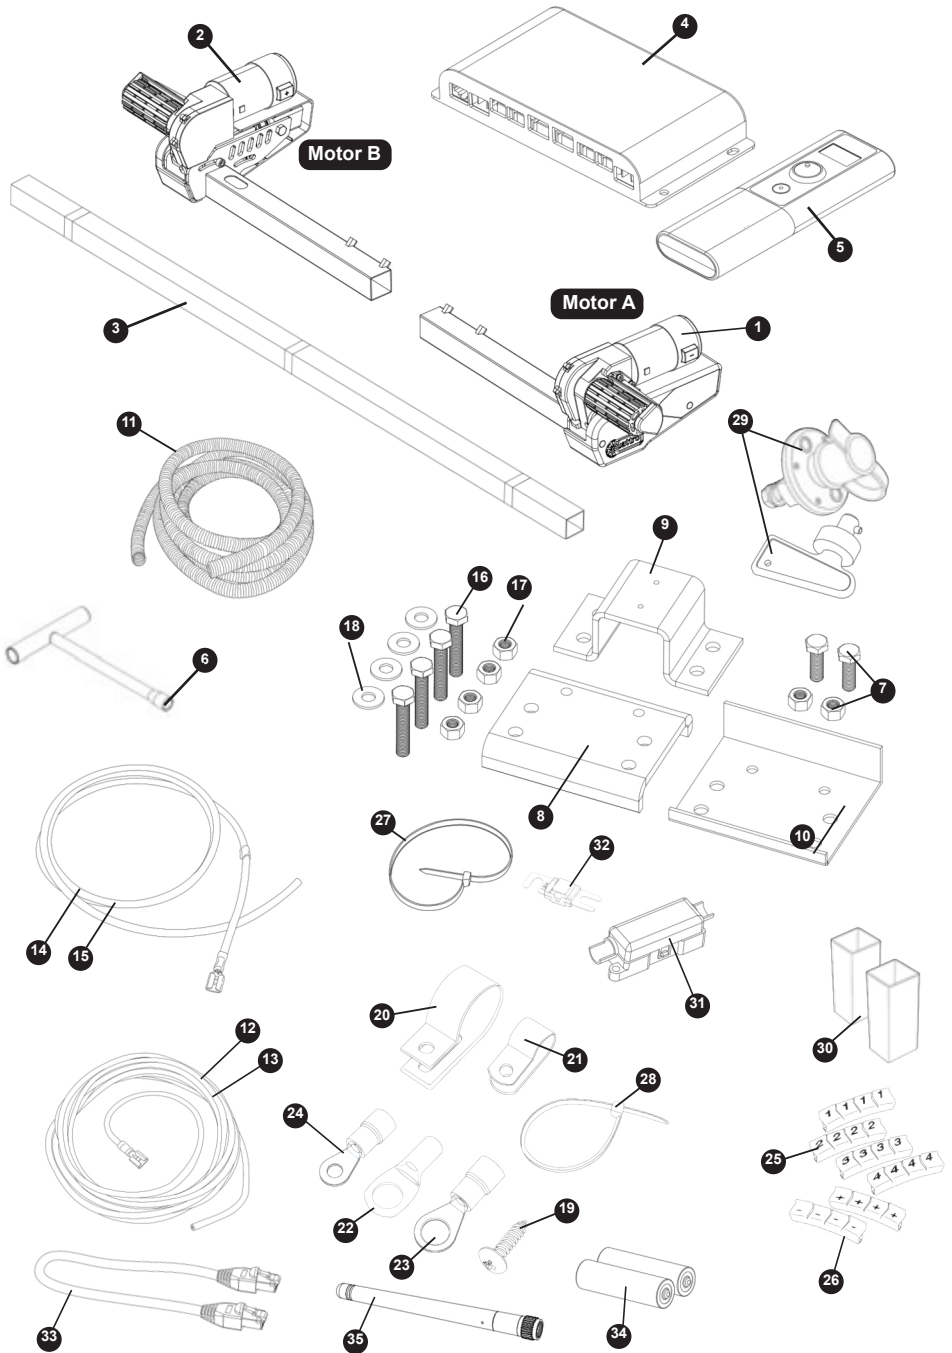
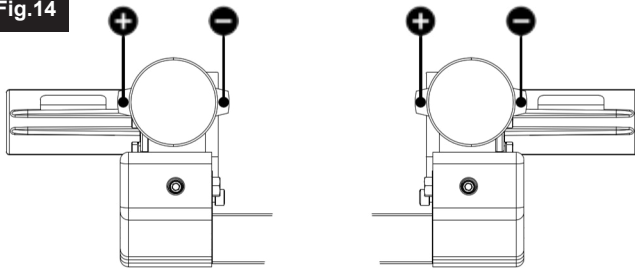

Fig.1
Fig.15
Loosely assemble motor framework side (1), motor framework side (2) and main cross bar (3) (see Fig.1). The nuts (Fig.1.A) for cross bar fixing must be no more than finger-tight at this stage.
Place the assembly (Fig.1) loosely under the caravan. In principle, the unit should be fitted in front of the caravan road wheels, but if fitting in this position is not possible, it is permissible to fit it to the rear of the wheels by rotating the whole assembly by 180° degrees (note: in this scenario, later refer to Fig. 15 for rear axle wiring schematic). Ensure that the Main Cross Bar (3) is positioned in the centre of the caravan/mover assembly (the centre is marked). Adjust the assembly so that the mover rollers are in line with the tyres, this can be adjusted slightly again later.
Start by wiring up your second mover system by following the same procedures stated in the previous section 'Installation - Electrical/Electronic Components'. Fig.15 displays the wiring schematic for this rear axle set up. Fig.16 can also be used for a general overview of how the twin axle wiring should be set up. Follow these diagrams closely to ensure that the movers are powered as intended and do not work against one another in operation.